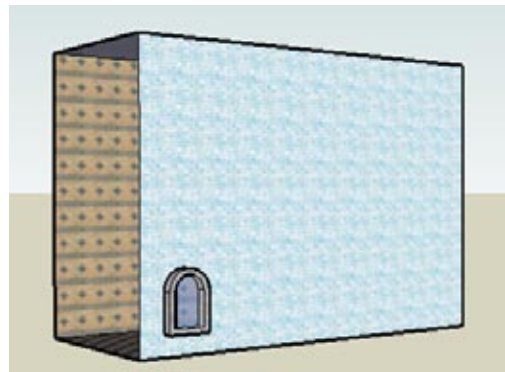

Figure 1-1
1. Start with a building like the one shown in Figure 1-1, which has one small window at the lower-left corner of the front face. You can create your model from scratch, or download my Linear Array model from the 3D Warehouse. Because the window will be copied, it should be a component. Why a component? A component is easy to select and will keep the file size small.